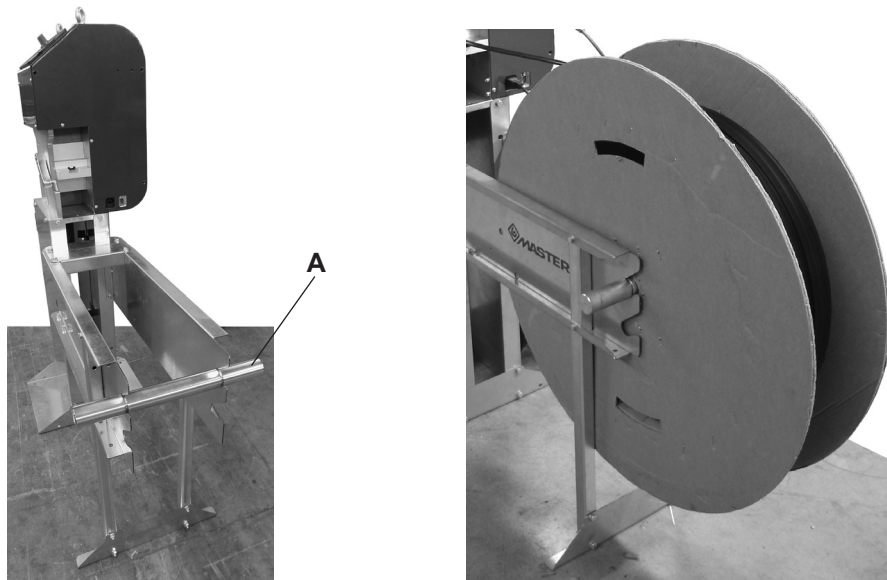

fig. 7
- Remove the pin (fig. 7 ref. A) from its housing and insert it in the coil.
WARNING: the coil must respect the dimensions shown in the “Technical data” (chap. 1.10) so that it rotates smoothly on the pin (fig. 7 ref. A) and prevent the engine efforts in feeding and the measures are biased.